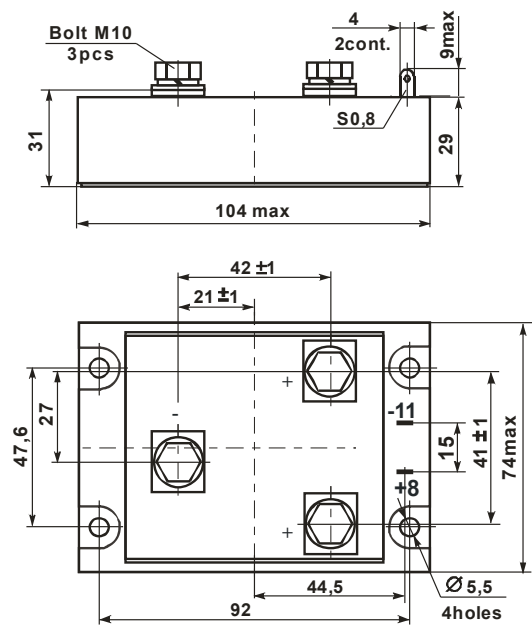

Figure 6.4 – Overall drawing of modules MT14, MT15D with maximum current 300, 400 A
**2MT14PTA(B)-PP4** – a module based on MOSFET-transistor shunted with a reverse fast-recovery diode in a housing corresp. to Fig.6.4 with inbuilt protection circuits.